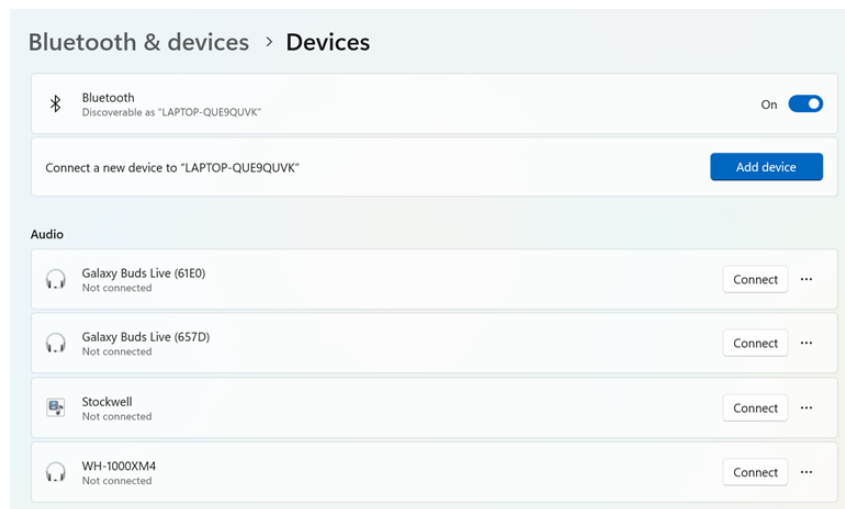

Figure 7: Pairing to a Bluetooth device for the first time.
1. Turn on the exoskeleton by pushing the “LED push button on PCB” as seen in Figure 7. It should blink blue indicating that it is searching for a Bluetooth device.